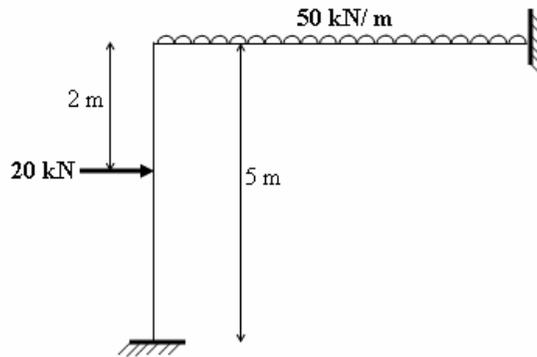

Fig.6
7. Using the stiffness method, analyze the plane frame shown in Fig.6 and draw the bending moment diagram. [16]